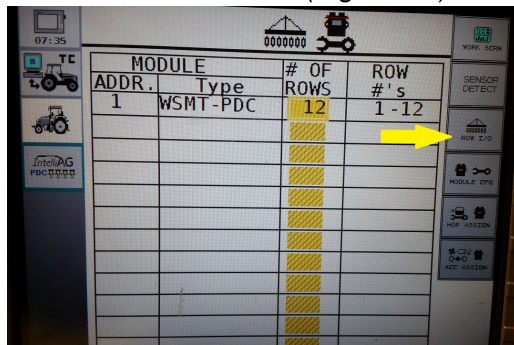

Figure 37
Step 11. Select **Row I/O** from icons on right hand side of VT. (Figure 37)